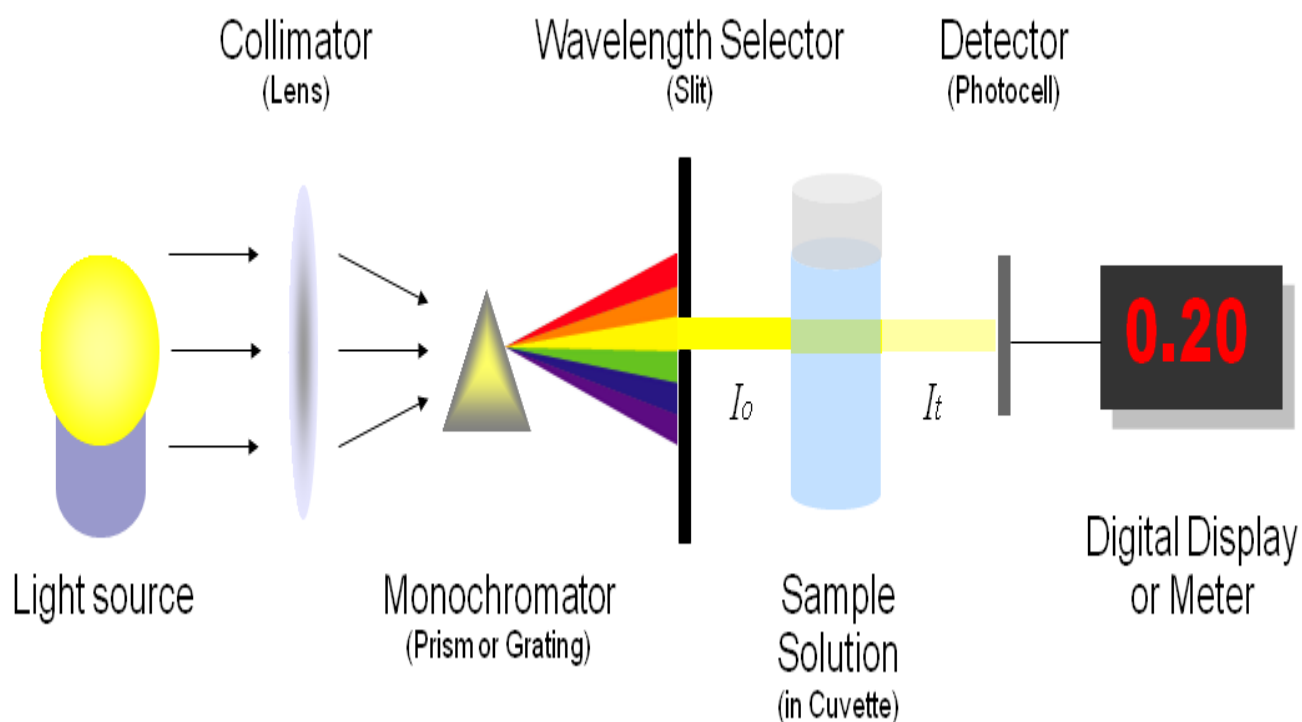
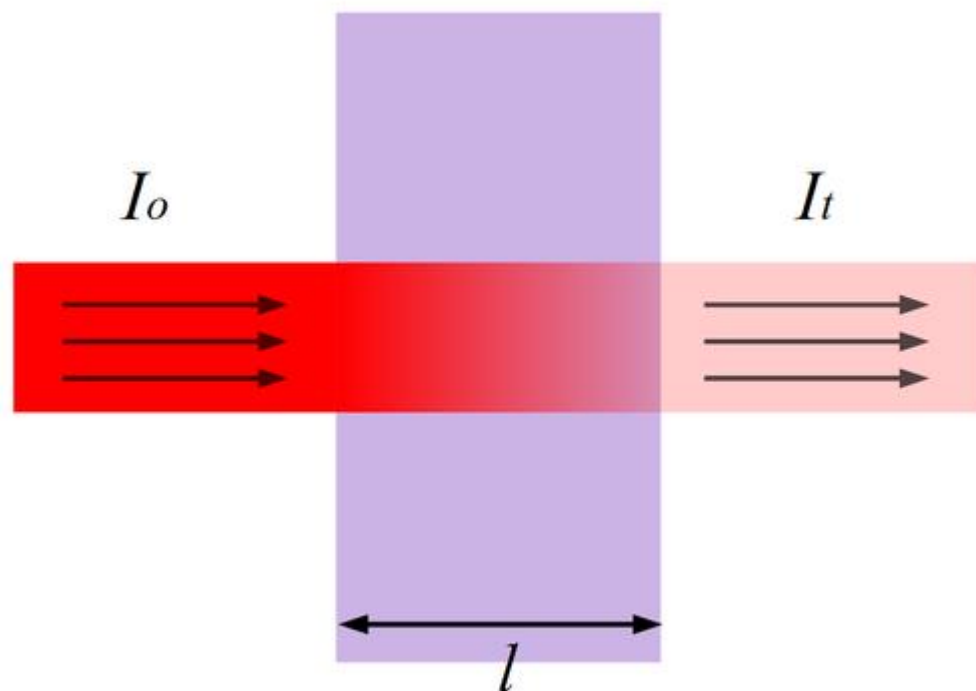

Figure 1: Basic structure of spectrophotometers (illustrated by Heesung Shim)
Figure 5: Transmittance (illustrated by Heesung Shim)
Figure 1 illustrates the basic structure of spectrophotometers. It consists of a light source, a collimator, a monochromator, a wavelength selector, a cuvette for sample solution, a photoelectric detector, and a digital display or a meter. Detailed mechanism is described below. Figure 2 shows a sample spectrophotometer (Model: Spectronic 20D).
- **Spectrometer:** It produces a desired range of wavelength of light. First a collimator (lens) transmits a straight beam of light (photons) that passes through a monochromator (prism) to split it into several component wavelengths (spectrum). Then a wavelength selector (slit) transmits only the desired wavelengths, as shown in Figure 1.
- **Photometer:** After the desired range of wavelength of light passes through the solution of a sample in cuvette, the photometer detects the amount of photons that is absorbed and then sends a signal to a galvanometer or a digital display, as illustrated in Figure 1.
Referring back to Figure 1 (and Figure 5), the amount of photons that goes through the cuvette and into the detector is dependent on the length of the cuvette and the concentration of the sample. Once you know the intensity of light after it passes through the cuvette, you can relate it to transmittance (T). Transmittance is the fraction of light that passes through the sample. This can be calculated using the equation:
Where absorbance stands for the amount of photons that is absorbed. With the amount of absorbance known from the above equation, you can determine the unknown concentration of the sample by using Beer-Lambert Law. Figure 5 illustrates transmittance of light through a sample. The length l is used for Beer-Lambert Law described below.